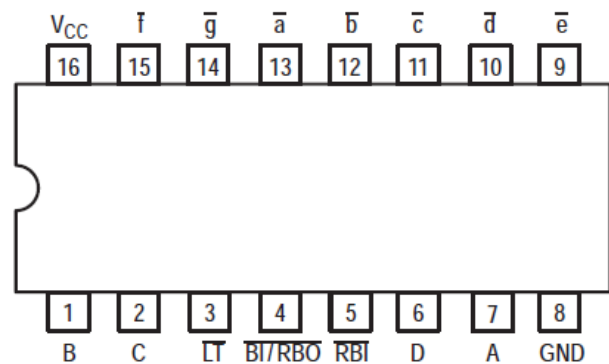

Fig. 1.9: 7447 to seven segment display decoder.
**Problem 1.9.** Connect the 7447 IC decoder  $\bar{a}$  –  $\bar{g}$  pins in Fig. 1.9 to the *a* – *g* pins of the display respectively.
**Problem 1.11.** Connect the A,B,C,D pins in Fig. 1.9 to pins in the GND extreme segment of the breadboard. What do you observe?
**Problem 3.1.** Connect the A-D pins of the 7447 IC in Fig. 1.9 to the GPIO pins 0-3 of the Pi shown in Figs. 1.3.1 and 1.3.2.